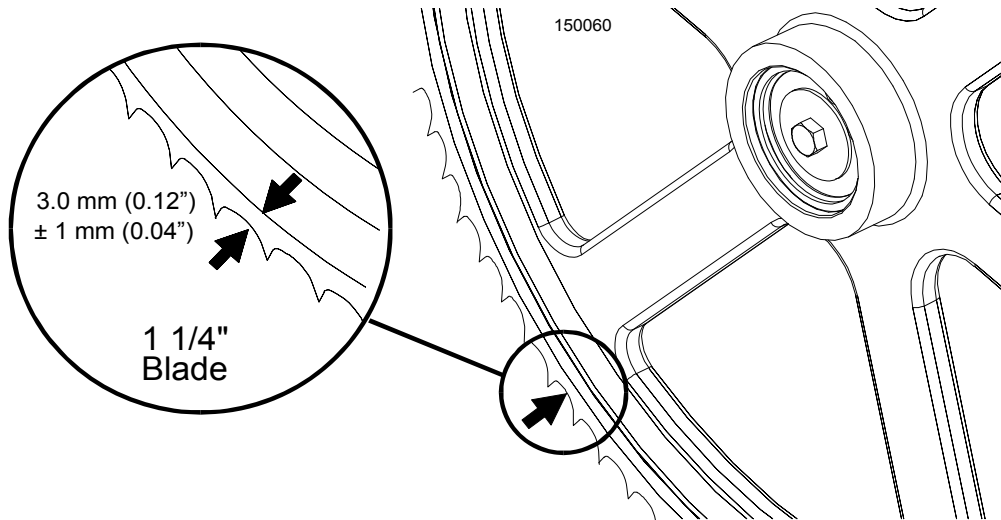

FIG. 6-6
**See Figure 6-6.** The horizontal tilt of the blade wheel should be adjusted so that the gullet of an 1-1/4" blade is 3.0 mm out from the front edge of the wheel ( $\pm 1.0$  mm).